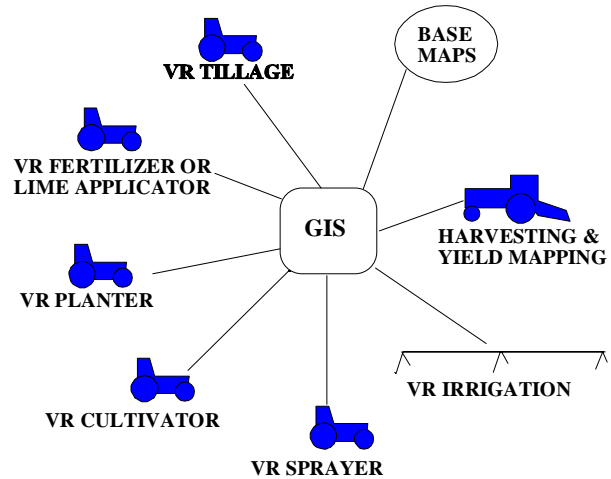

Figure 1. Overview of the Precision Farming System
An overview of the precision farming system of the future is depicted in Figure 1. The brain of the system is a geographic information system (GIS), which will form the knowledge base and decision making parts of the precision farming system. The technical and economic decisions related to the farming operation will be governed by this knowledge based GIS. A GIS will be made up of layers of related information, and the GIS will allow a quantitative study of the relationships between the layers. For example, the GIS may contain the following layers: (1) field topography, (2) soil types, (3) surface drainage, (4) sub-surface drainage, (5) soil testing results, (6) rainfall, (7) irrigation, (8) actual chemical application rates, and (9) yield. Some of these layers will be entered once; some will be entered annually or even more frequently. The GIS will then allow a study of the relationship between these layers of information to determine cause and effect and to base decisions upon this knowledge.
As indicated in Figure 1, each field operation may include variable rate technology. Tillage depth may be varied according to field location; for example, subsoiling depth may be dependent on field location. Seeding rates may vary according to field location, which may depend on factors such as topography and soil type. Fertilizer application rates may vary in relationship to factors such as soil type and the results from either real time or pre-application testing. Application of insecticides may be dependent on insect location from either scouting reports or from aerial imaging. In like manner, the application of all inputs to the crop production process may vary with field location.